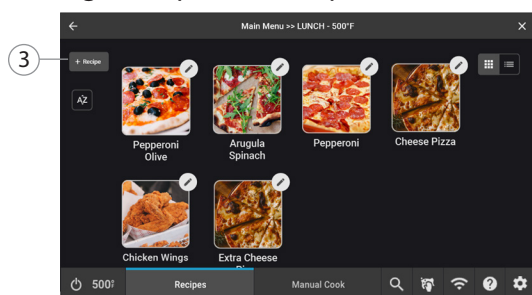

Figure 36: Add Recipe to Group
3. Touch the “+Recipe” button (Figure 36, above).